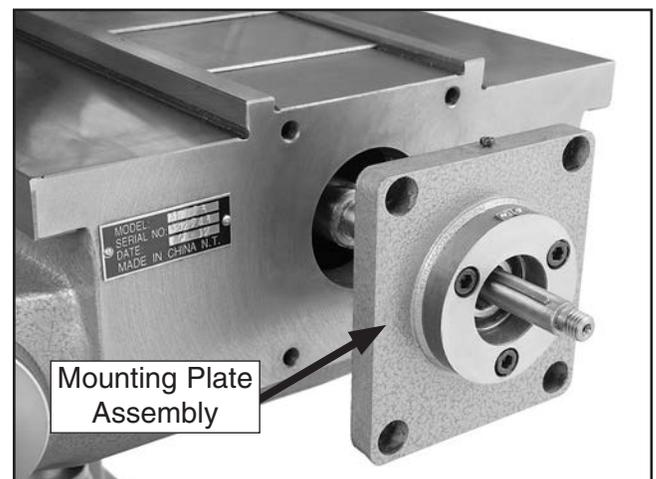

Figure 70. Removing mounting plate assembly from lead screw.
4. Use an 8mm hex wrench to remove the four cap screws securing the mounting plate assembly; then remove it from the lead screw (see **Figure 70**).